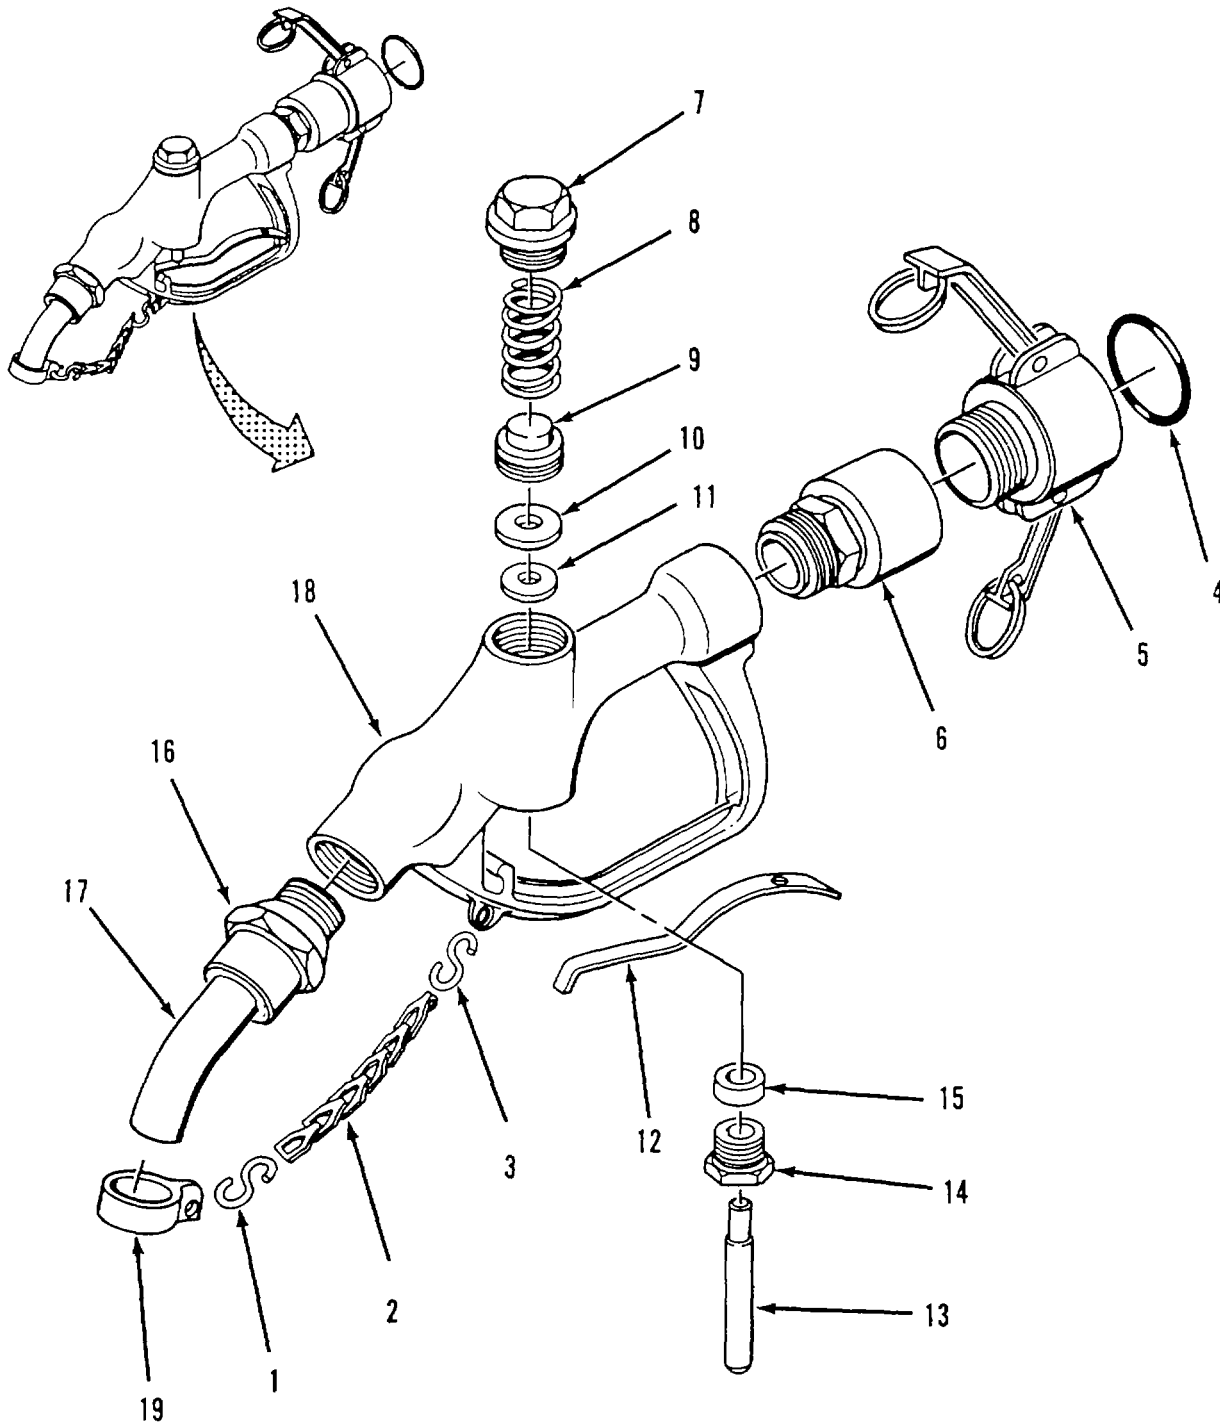

Figure 4-9. Distribution Nozzle (1-Inch) Assembly.
- (1) Inspect body (18) and tube (17) for cracks and stripped or damaged threads.
- (2) Inspect handle (12) for bends and cracks.
- (3) Inspect stem (13) for scoring Check that stem is straight.
- d. Repair. Replace damaged parts Do not reuse gasket (4), packing (15) or disc (10).
- e. Assembly. Refer to figure 4-9.
- (1) Position end of tube(17)on body (18)and secure with jam nut (16).
- (2) Install packing (15) and packing nut (14) in body (18). Do not tighten packing nut.
- (3) Push stem (13) into packing nut (14) from top of body (18) Make sure stem is positioned as shown.
- (4) Position handle (12) in body (18). Push down on stem (13) to keep handle in place.
- (5) Place disc washer (11), disc (10) and disc holder (9) on top of stem (13).
- (6) Position spring (8) on top of disc holder (9) and install cap (7) on body (18).